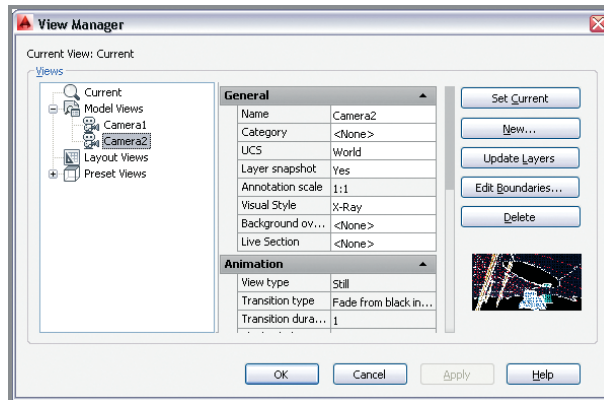

FIGURE 16.24 Restoring a view
6. Type **V** (for view), and press Enter. Select Camera2 in the list of Model Views in the View Manager dialog box (see Figure 16.24). Click Set Current, Apply, and then OK. The initial perspective view is restored.